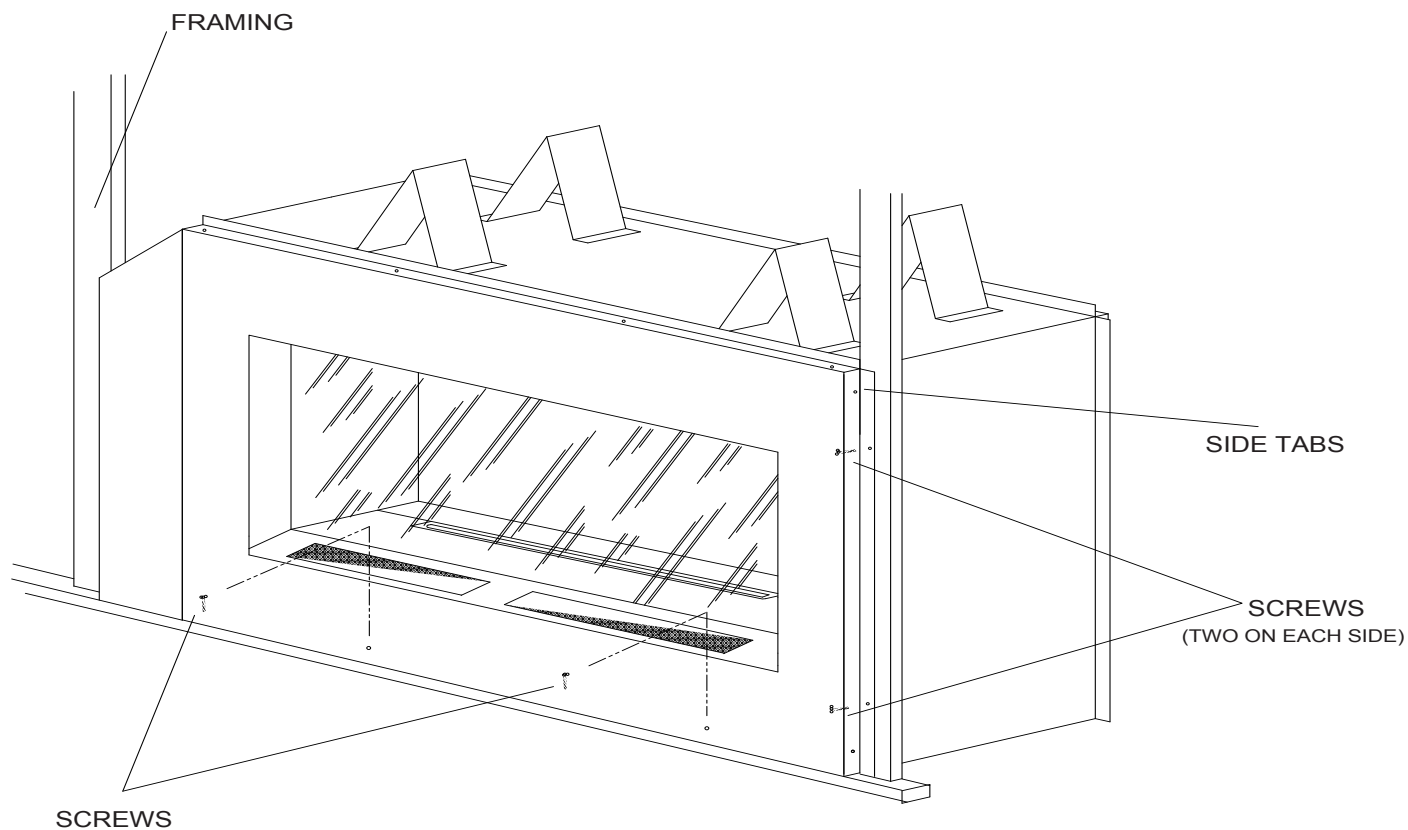

*Figure 4 - Minimum outside dimensions of the face covering material and fireplace framing*
2. Minimum outside dimensions of the material over the facing are 53-3/4" x 40" (see Figure 4).